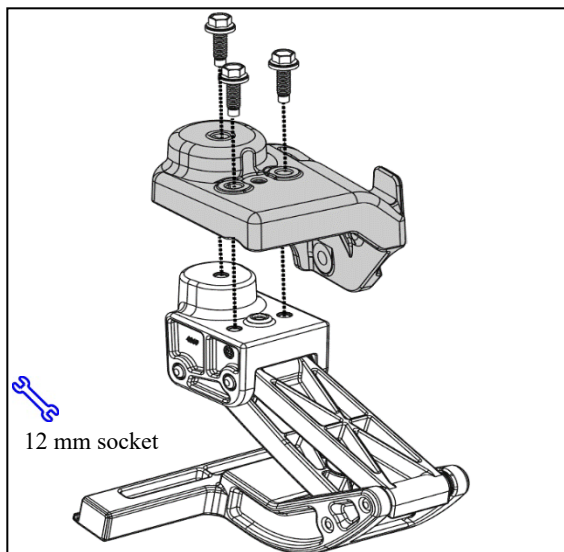

Fig. 2-1
2. Use provided coarse thread M8 Conical Washer Bolts to attach linkage assembly to frame mount. (Fig 2-1)